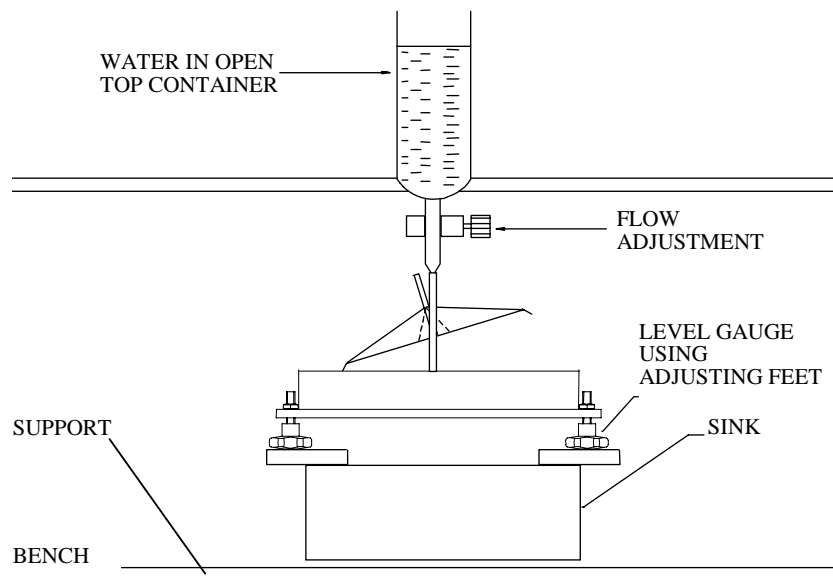
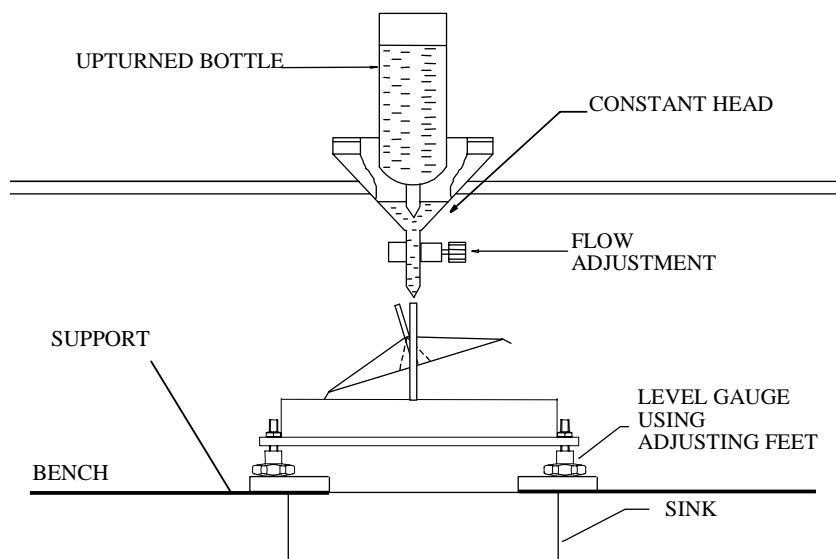

Figure 8a Dynamic Calibration using a Measured Quantity of Water
Figure 8b Dynamic Calibration using the Constant Head Method
1. Set up the gauge as illustrated in Figure 8a or Figure 8b, carefully levelled and connected to the datalogger.